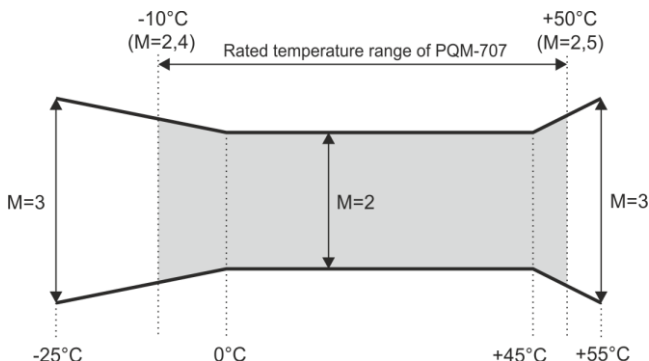

Fig. 57. Basic uncertainty multiplier M as a function of ambient temperature (does not apply to the reference conditions).
The basic uncertainty given in technical data applies to reference conditions only (Tab. 9). Outside of this range an additional multiplier has to be used, as shown in Fig. 57. The multiplier (M) is 2.0 in the ambient temperature range 0°C...+45°C. Over +45°C up to +55°C it rises in linear manner up to 3.0. Below 0°C down to -25°C it rises in linear manner to 3.0.